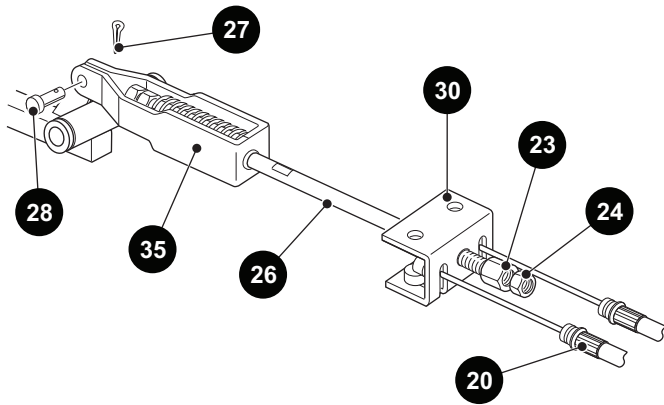

Fig. 26 Equalizer and Compensator
- Loosen and remove the jam nut (24) and the spherical nut (23) on the equalizer link (30).
- Remove the brake cable (20) and equalizer assembly (30) (Ref Fig. 26).
- Disconnect the compensator assembly (35) from the brake pedal (40) by removing the cotter pin (27) and clevis pin (28) (Ref Fig. 26).
- Loosen and remove the jam nut (24) and the spherical nut (23) connecting the compensator rod (26) to the equalizer link (30).
- Remove the compensator assembly (35).
- Assemble in the reverse order of removal using new cotter pins (11) in the clevis pin. If the clevis pins are worn, replace them as well.